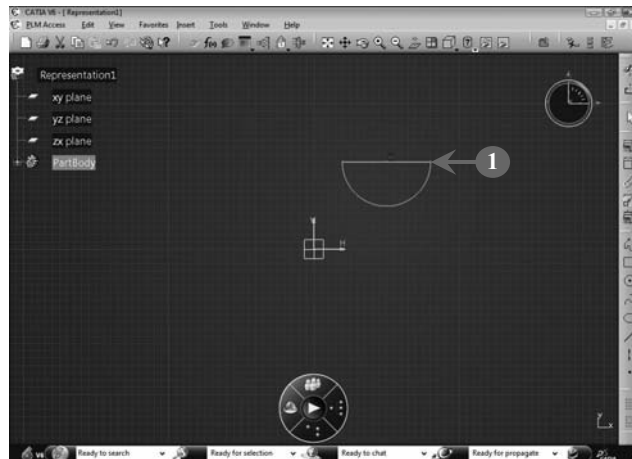

FIGURE 2.62
1. *Select* the diameter of the semicircle (which is the sketch to be mirrored), as shown in **Figure 2.62**:
Figure 2.64 displays the final image that is a mirror image of the sketch (Figure 2.62).